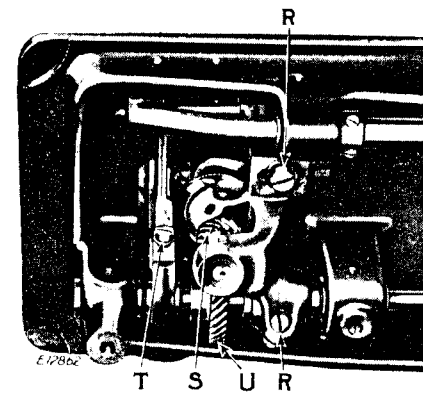

Fig. 17. Adjustment of Hook Saddle
Loosen the two screws in the hub of the hook driving gear (U, Fig. 17) and tap this gear to the right on the hook driving shaft for an earlier hook timing, or to the left for a later hook timing. When the correct timing is obtained, securely tighten the two set screws in the hub of the gear.
Turn the balance wheel over toward you until the point of the sewing hook is at the center of the needle. Loosen the two screws (R, Fig. 17) underneath the bed of the machine and move the hook saddle to the right or left, as may be required, until the point of the hook is as close to the needle as possible without striking it, then securely tighten the two screws (R).
Remove the throat plate, feed dog and the bobbin case opening lever. Then take out the two screws from the hook shaft gear (S, Fig. 17) and lift out the sewing hook.
Remove the throat plate; clean the lint and dust from between the feed points and replace the throat plate; tip the machine back and turn the balance wheel towards you until the feed dog is at its highest position; loosen screw (T, Fig. 17) in the feed lifting cam fork on the feed bar and raise or lower the feed dog, as may be required, and retighten the screw (T).